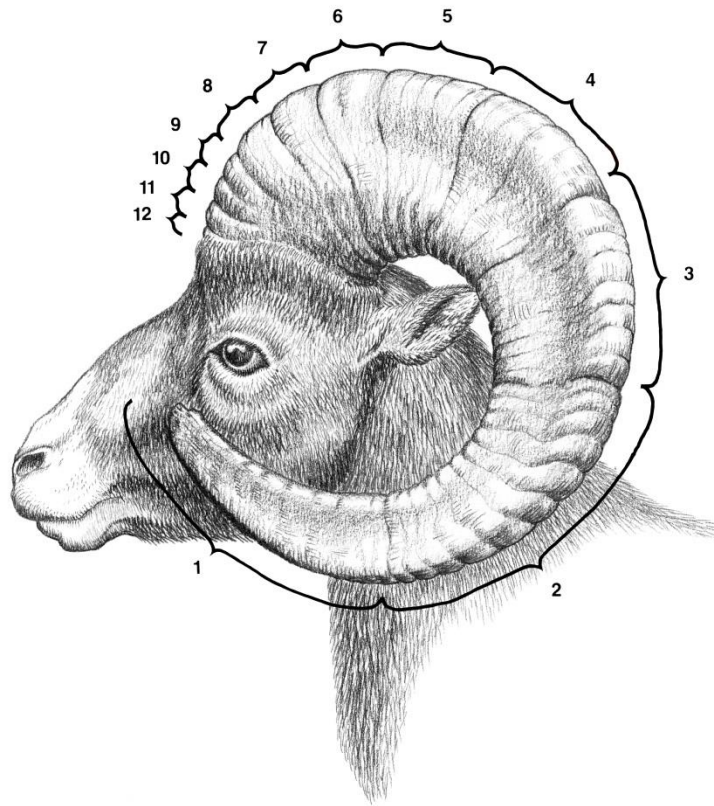

Figure 8 (from *Sheep and Sheep Hunting*, O'Connor, used with permission)
3. Record the Age. This is a supplemental measurement. Carefully count the growth rings of the ram to determine its age. (Figure 8) Do not count rings that do not extend the entire circumference of the horn. Count the rings on both horns so that you can verify you have the right number. It is important to remember that hunting is a conservation tool, and, as such, hunters for mountain game seek to shoot old males. Whenever possible, measurers for the Rowland Ward record book should take the extra effort to determine the age of ibexes, sheep, and goats.
Counting the rings (annuli) on markhorns, ibexes, true sheep, and many wild goats (*Capra*) is almost always possible. Growth rings are the result of the difference in the sheep's food intake during the winter and spring seasons: Horn growth slows during the winter season when food intake is lower and then accelerates again in the spring. Be careful not to count a ring that does not extend the entire circumference of the horn; these "false start" rings can be caused by better food conditions that occur temporarily late in the winter season. (See Figure 8, in the middle of year 4) In sheep with heavily broomed horns, the first, and in rare cases the second, growth rings are no longer there because they have been worn off. This is only very rarely so for ibexes and markhorns. These data will be published in *Rowland Ward's Records of Big Game*.